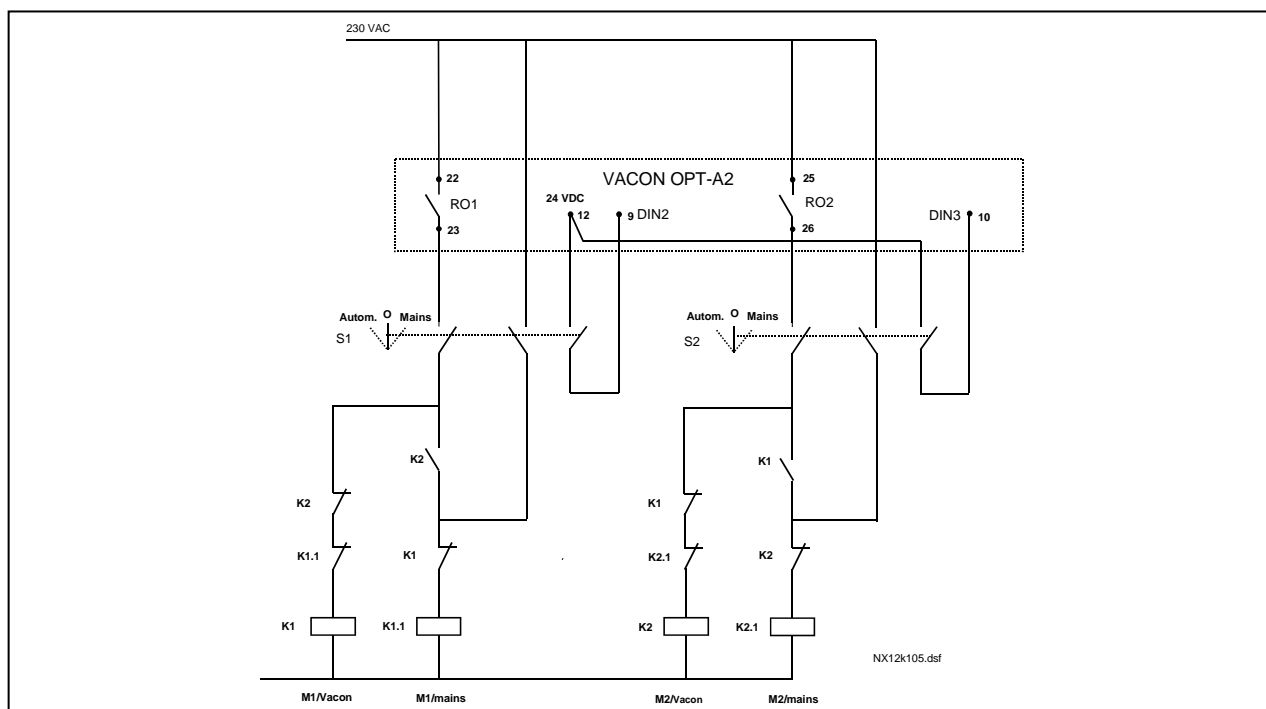
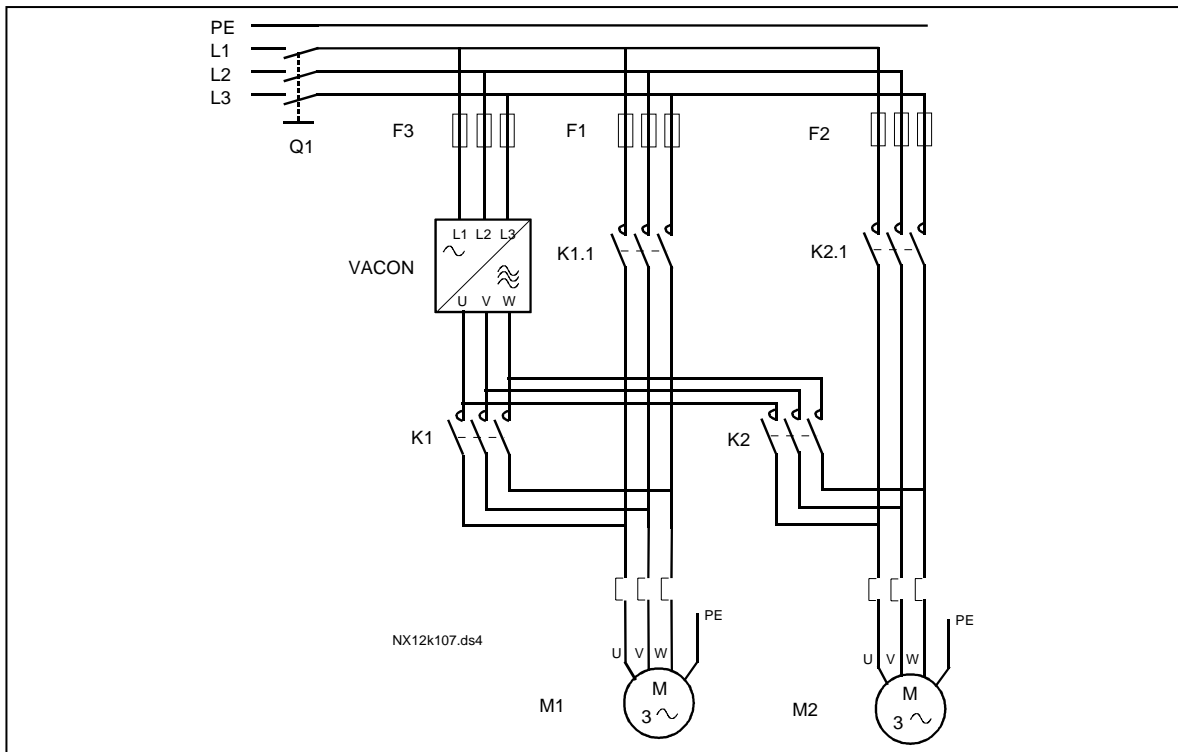
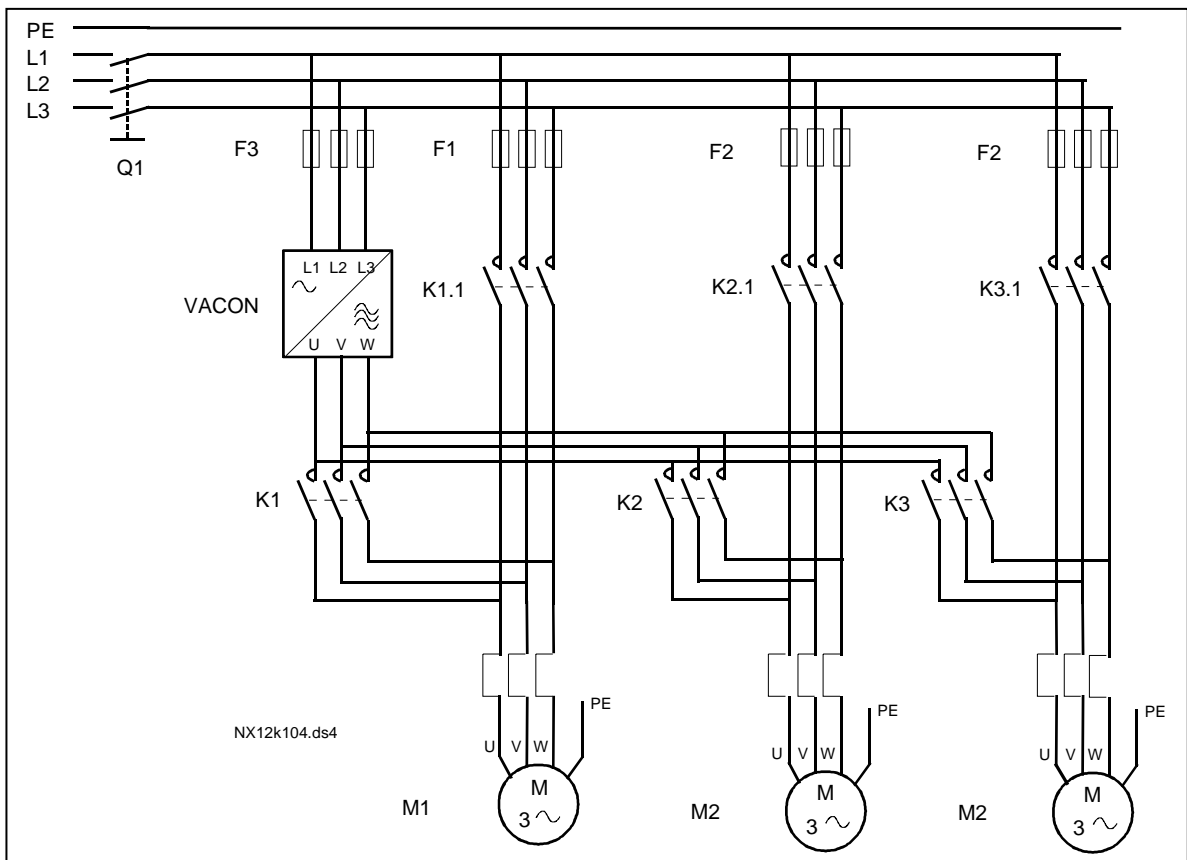

Figure 7-1. 2-pump autochange system, principal control diagram
Figure 7-5. Example of 2-pump autochange, main diagram
Figure 7-6. Example of 3-pump autochange, main diagram
- External contactors controlled through the relay outputs of the frequency converter connect the drives to the frequency converter or to the mains. If the motor controlled by the frequency converter is included in the autochange sequence, it is always controlled through the relay output activated first. The other relays activated later control the auxiliary drives (see Figure 7-5 and Figure 7-6).
The automatic change of starting and stopping order is activated and applied to either the auxiliary drives only or the auxiliary drives **and** the drive controlled by the frequency converter. depending on the setting of parameter 2.9.25, *Automatics selection*. By default, the Autochange is activated for 2 drives. See Figure 7-1 and Figure 7-5.